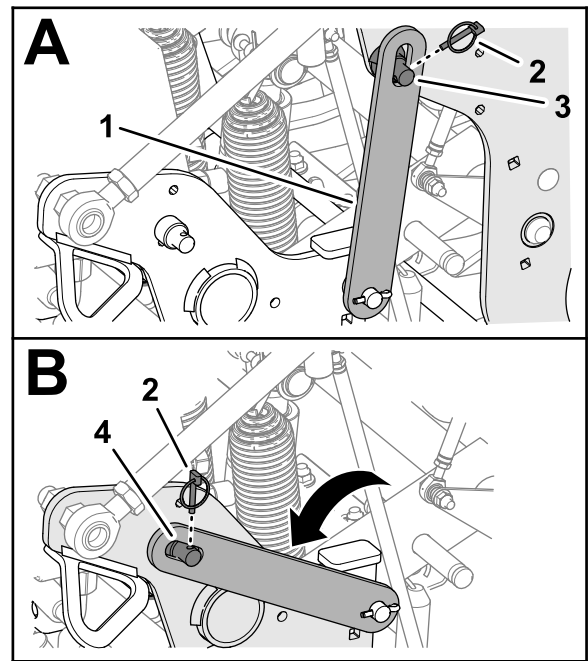

**Figure 103**
3. Remove the lynch pin securing the service latch to the support pin of the coring head (Figure 103).